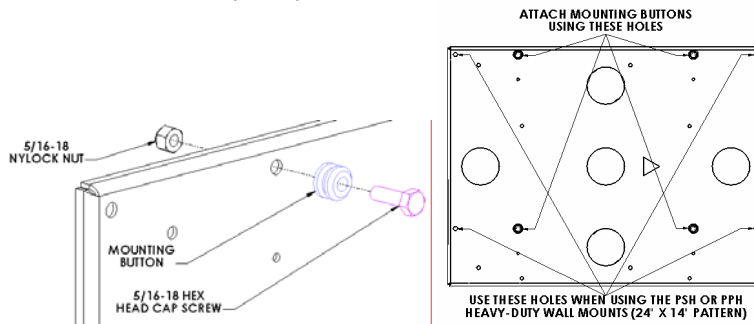

Figure 2
1. Using a 5/16-18 hex head cap screw and Nylock nut, secure mounting button, with chamfered hole of mounting button (larger surface) facing bracket, to bracket (four places) (see Figure 2 & Figure 3). If using the PSH or PPH heavy-duty mounts, use the 24" x 14" spud pattern.